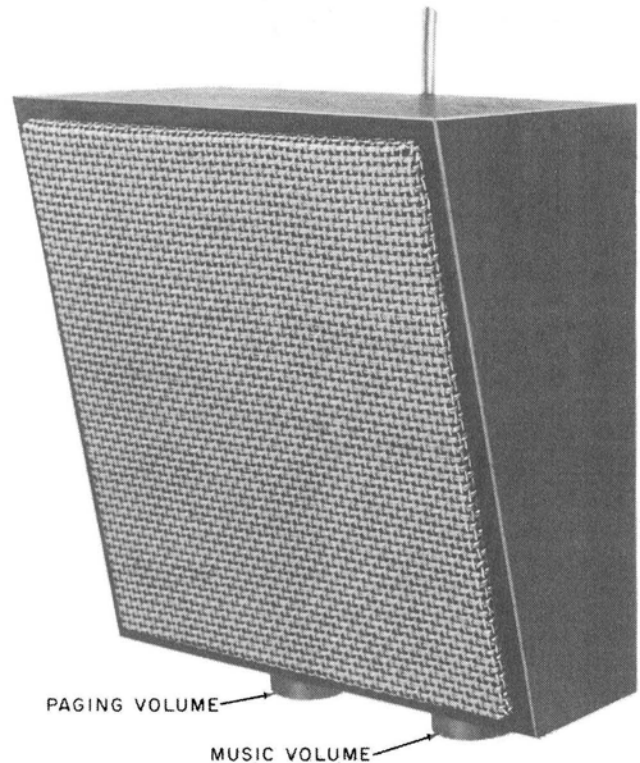

Fig. 22—♦109A Loudspeaker Set
3.22 ♦109A Loudspeaker Set (Fig. 22, 23, 24, and 33)
(c) If background music is provided, adjust the volume control of the 33A voice coupler to mid-range; then adjust the right-hand volume control(s) on the loudspeaker(s) to the desired music level (Fig. 22). The volume control of the 33A voice coupler may be readjusted, if necessary, to raise or lower the overall music level.
- (1) At any telephone set, depress an idle IC button and the DSS button that corresponds to the 109A loudspeaker set (if background music is provided it will be muted). Speak into the transmitter and adjust the volume control to the level desired by the customer (Fig. 22).